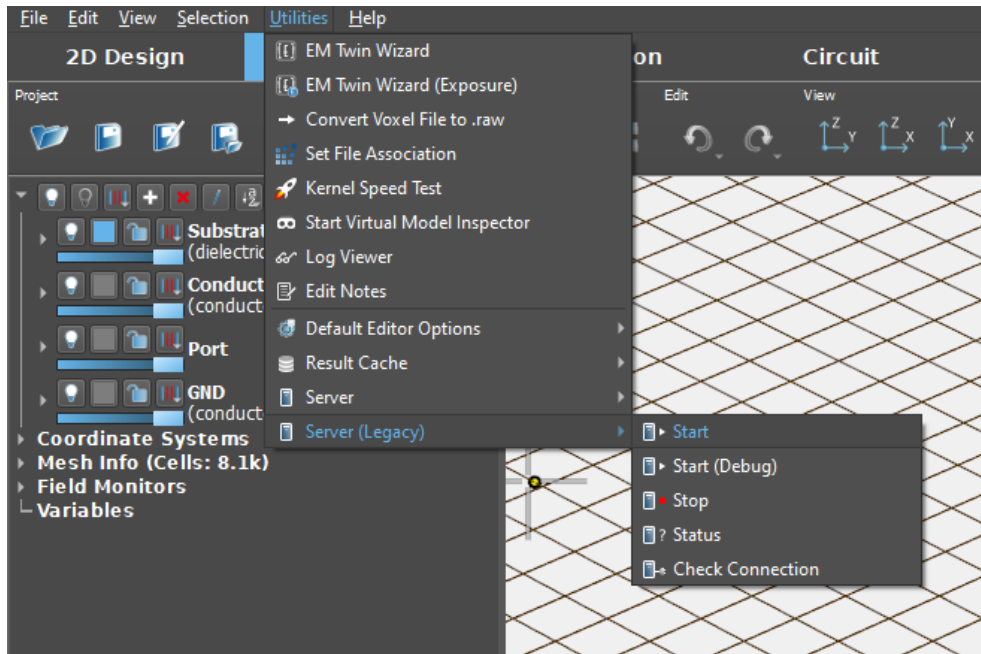

Figure 5.2.: Starting the EMPIRE XPU™ remote service from GUI
- Select **Server - Start** or **Server (Legacy) - Start**, see Figure 5.2